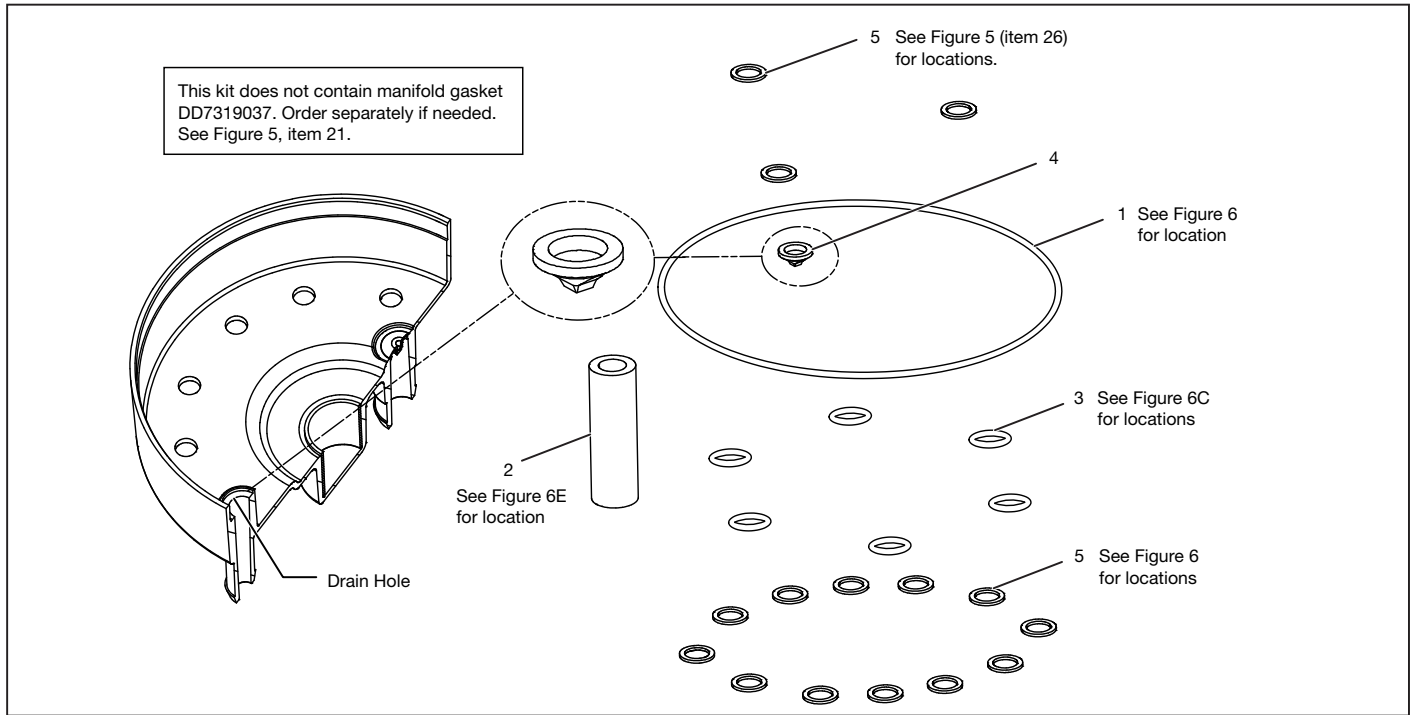

Figure 6D, Piston Block Seal Kit
- Each piston block kit includes 1 piston block and 1 piston block O-Rings (Figure 6D, item 3).
- A complete set of O-Rings and gaskets is provided in the piston block seal kit (order separately - See Figure 6D).
Repair Parts List for Figure 6D